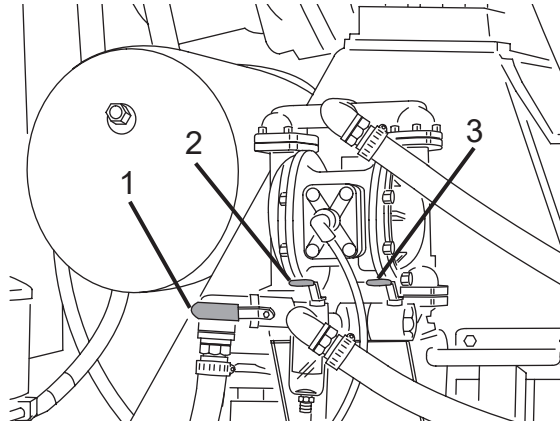

Figure 116
- Close the main tank ball valve (Figure 116, Item 2) and chemical tank ball valve (Figure 116, Item 1) (if equipped).
- Open the purge valve (Figure 116, Item 3).